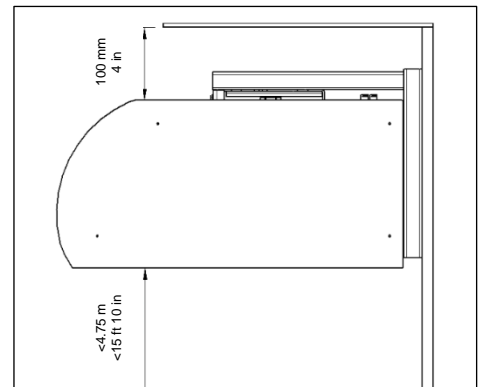

Figure 1
- at least 100mm [4 in] clearance (air gap) above the air curtain, see Fig 1